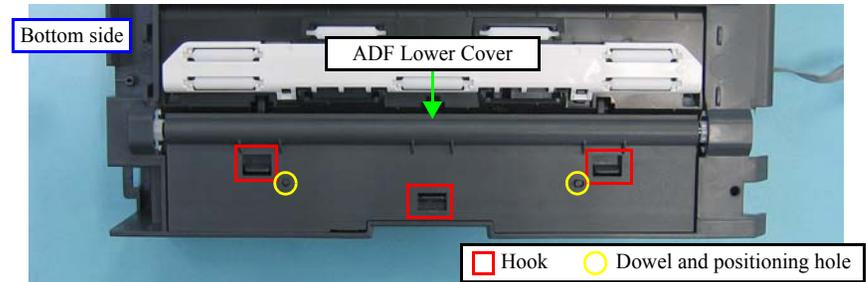

Figure 4-125. Removing the ADF PF Roller (1)
- When installing the ADF Lower Cover, match the positioning holes and the dowels (x2) as shown in Figure 4-125.